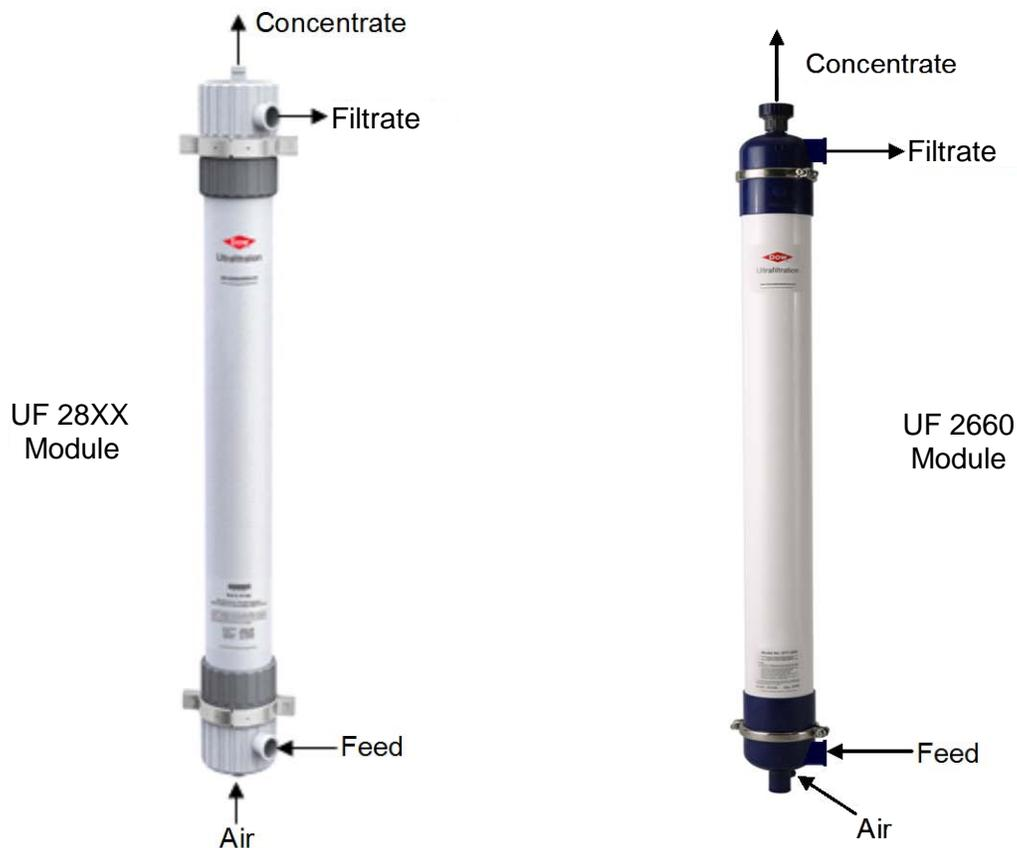
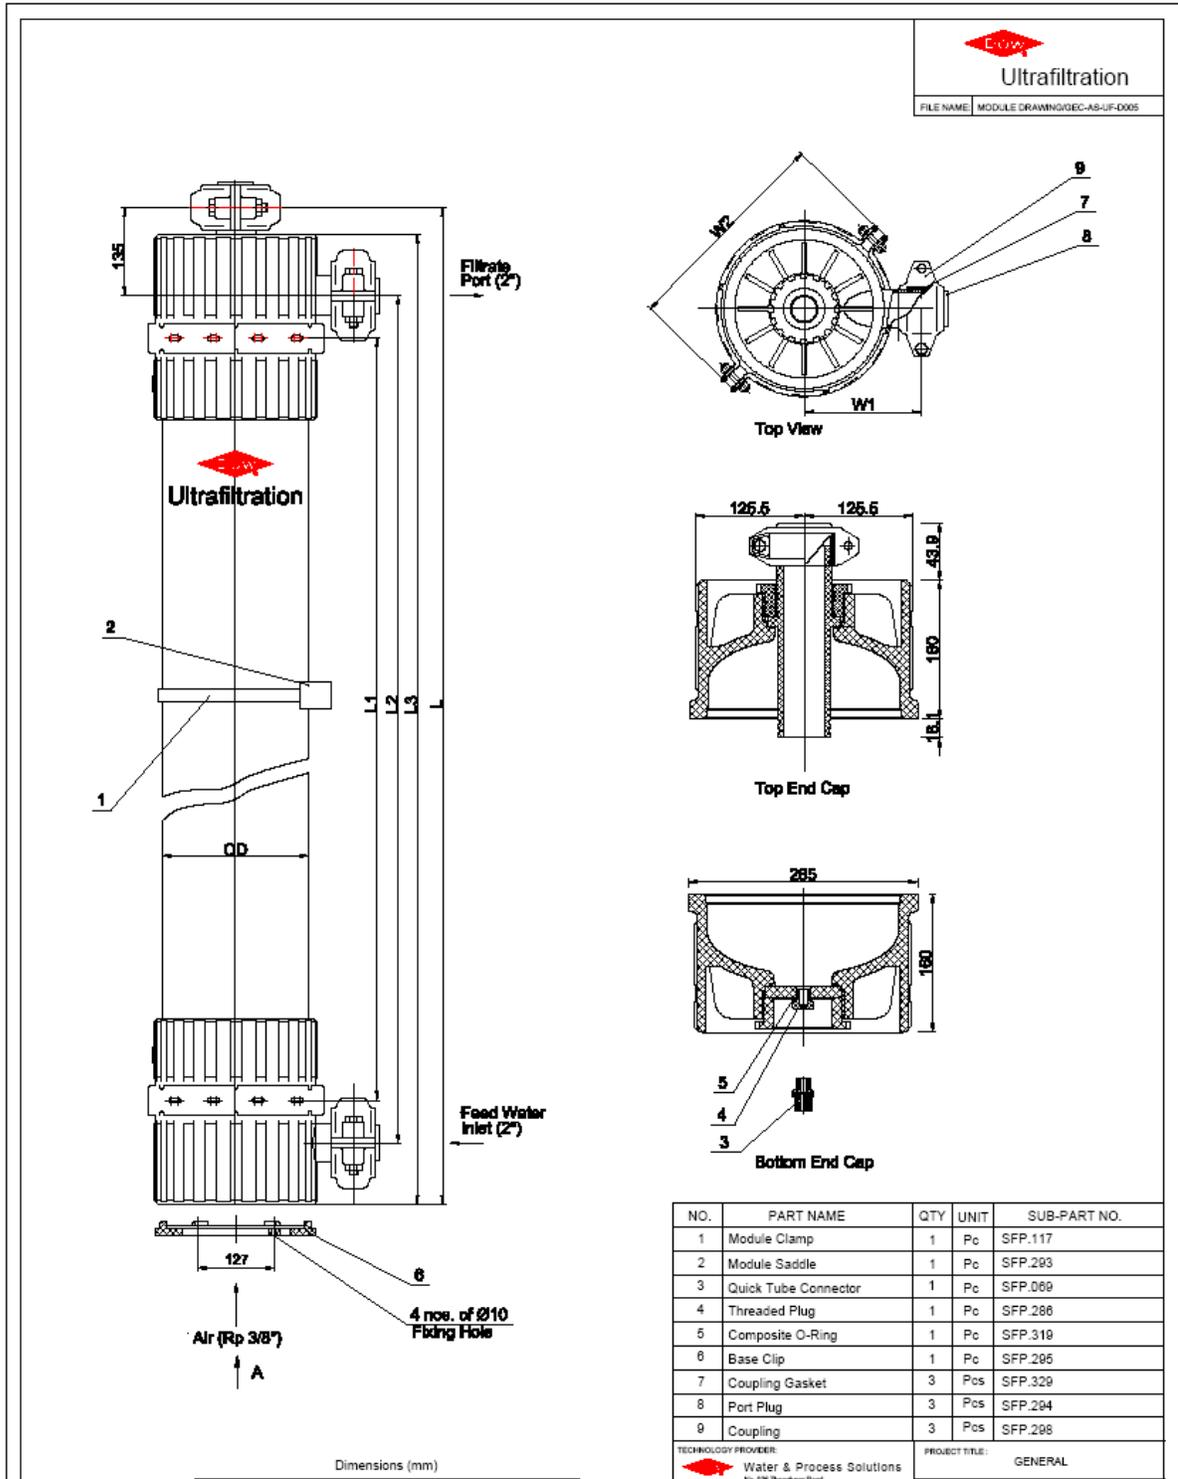

Figure 3: Photograph of a 28XX Series Module and a 2660 Module
Figure 4: SFP 2860 and 2880 Module Reference for Dimensions
The specifications for each module are shown in Table 2 below and as depicted in Figures 4 through 6.
2. Install Saddle (4) to Skid Frame (2). Drill one 7 mm diameter hole on Skid Frame. Position Saddle nipple into one 7 mm diameter hole on Skid Frame. Tap Saddle with rubber mallet to mount the nipple into the hole. Refer to Figure 3, Saddle and Clamp Detail.
3. Partial Install of Module Clamp (5). Drill two 10 mm diameter holes on Skid Frame. Fix one side of clamp with Bolt (8) (M8-Size, 80 mm length, by Dow). Refer to Figure 3, Saddle and Clamp Detail.
4. Drain Preservative. At Opening 1, remove Concentrate Blind (7). At Opening 2 and 3, remove Permeate and Feed Blinds (8, 9). Place UF Module in vertical position to drain out preservative. Appropriate Environmental, Health, and Safety measures should be taken for handling and disposal of the preservative. Concentrate Blind, Permeate and Feed Blinds may be retained for future use.
5. Mount UF Module (10) to Base Clip (1). Chain block or hoist is recommended for handling and positioning of UF module. Base of UF Module will snap into Base Clip.
6. At Opening 1, use Union (11) to connect UF Module concentrate outlet.
7. At Opening 2 and 3, use Coupling (12) and Coupling Gasket (13) to connect UF Module port with T-Adapter (14) (by Customer). The bolts for Couplings should be tightened to torque of 8 to 10 N\*m. The length of T-Adapter will depend on pipework design of the Skid Frame. Refer to Figure 4, T-Adapter Detail.
8. At Opening 4, remove Threaded Plug (15), and fit Quick Tube Connector (16) with Composite O-Ring (17) at the bottom of UF Module. Threaded Plug may be retained for future use.
9. Complete Install of Module Clamp (5). Secure Module Clamp (5) around UF Module (10), and secure into Saddle (4) and Skid Frame (2) with Bolt (8) (M8-Size, 80 mm length, by Dow). Refer to Figure 3, Saddle and Clamp Detail.